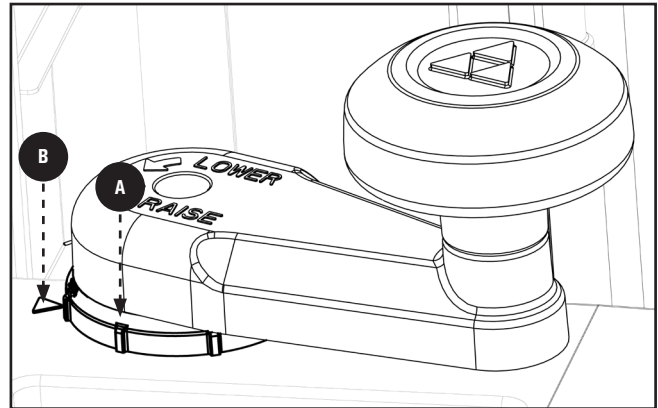

FIGURE 18
The cutterhead height adjusting handle has an adjustment ring Figure 18. The Adjustable Index Ring is best utilized after the initial cut has been made.
2. Set the ring **A** Figure 18 to align the zero with the arrow **B**.